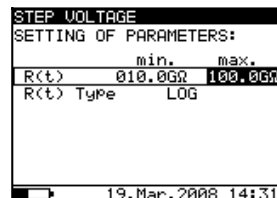

Fig. 25 Set-up menu of the Graph R(t)
- Press the SELECT key to Set-up the parameters of the graph R(t), see the *Fig. 25*. Press the ESC key to return to basic Set-up menu in the Step Voltage function.